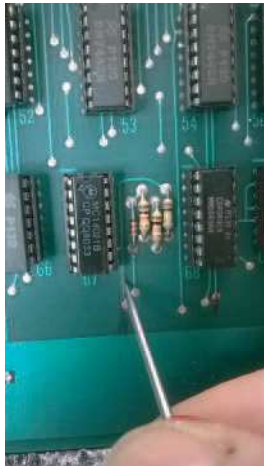

Figure 1
To supply the MIDIcontrol interface with power from your OBSX, please follow figure 1..3:
1. Cut trace below U67 as shown in figure 1 & 2